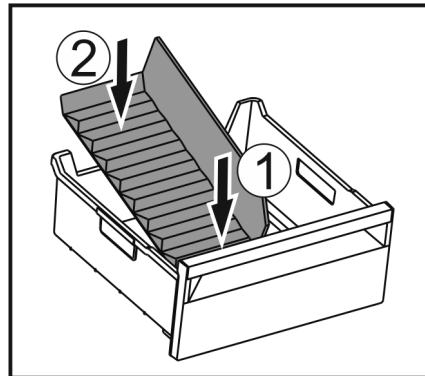

Fig. 140
- Insert the front part of the ice compartment divider. *Fig. 140 (1)*
- Lower the rear part of the ice compartment divider to the drawer bottom. *Fig. 140 (2)*